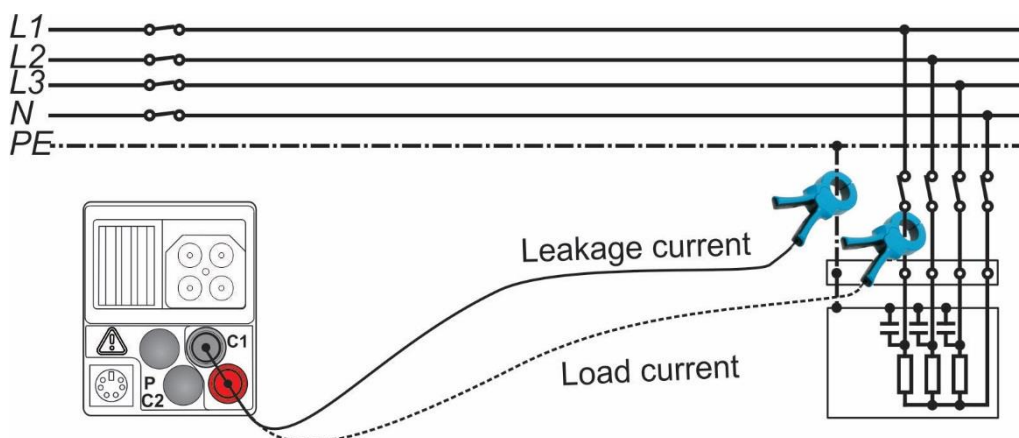

Figure 5.51: Leakage and load current measurements
- Connect** the clamp to the item to be tested (see Figure 5.51).